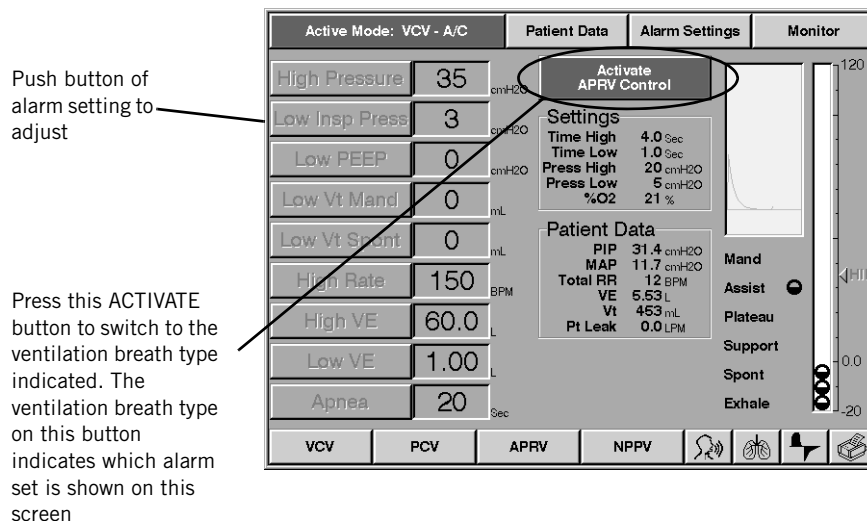

Figure 8-18: Setting Alarm Limits That Are Not Currently Active
3. Select the REVIEW ALARMS button to display the alarm settings for PCV (Figure 8-18).
4. Notice that all the alarm buttons (Figure 8-18) are grayed out, indicating that the alarm limits are not currently active. The ventilator displays the current value for that set of alarm limits. Push the button for the alarm limit you want to adjust.
NOTE: Any of the changes made in the screen shown in Figure 8-18, do not take effect until the operator switches to the new ventilation breath type (in this case Pressure Control).